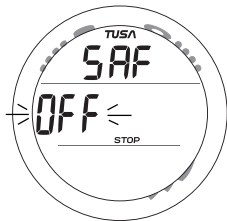

Fig. 47 - SET SAFETY STOP
**Set Safety Stop** information includes (Fig. 47):